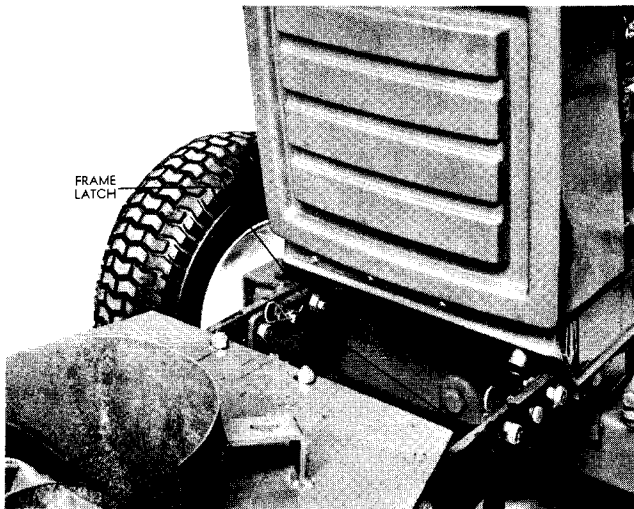

FIGURE 4
4. Remove the clevis pins from the frame latches. Engage the slots of the frame arms with the tractor mounting rods (figure 4). Swing the latches down and secure with clevis pins and hairpin cotters.